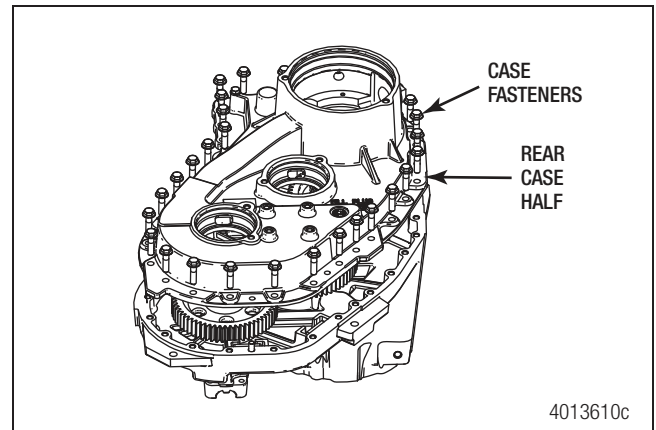

Figure 7.24
7. Install the transfer case capscrews and tighten evenly to specification using a criss-cross pattern. Figure 7.24.